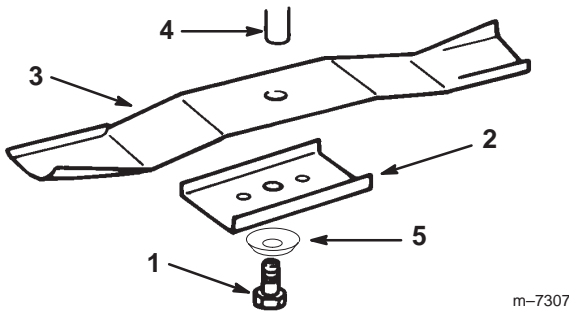

Figure 6
2. Install the Recycler blades, blade retainer, curved washer (cupped side toward the blade), and the blade bolt (Fig. 6).